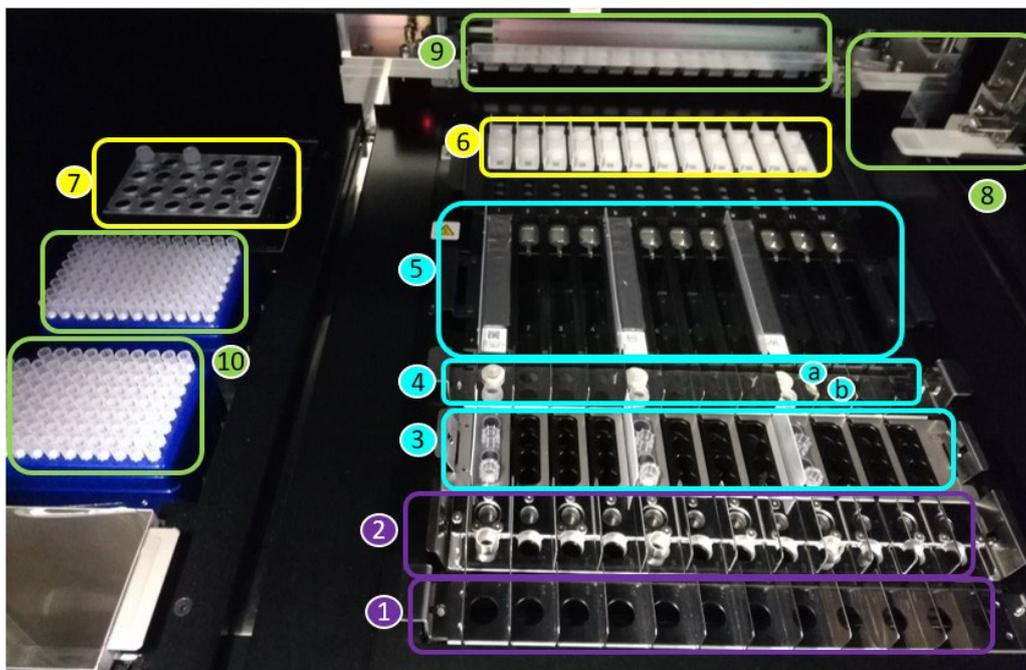

Figure 1: The «**ELITE InGenius**» loading area
An overview of the «**ELITE InGenius**» instrument is shown in Figure 1.
Figure 1 shows: Primary tube rack position (1), Extraction tube rack position (2), Tip rack position (3), Elution tube rack position (Dnase I tube + tube adapter (a) and Elution tube (b)) (4), Extraction cartridge rack position (5) and PCR cartridge rack position (6), PCR and Internal Control reagent block (inventory manager) position (7), sample and reagent dispensing (8, 9), the waste box (left-bottom) and tips positions (10).
- To confirm that sufficient reagents for the number of tests selected are placed in the inventory manager position 7 (cfr. page 10, Figure 1) as indicated on the screen, press the “Next” button.
- Place sufficient Tips racks in position 10 (cfr. page 10, Figure 1).
9. Place the PCR cassettes indicated in position 6 (cfr. page 10, Figure 1).
11. Place the Extraction cartridge cassette(s) indicated in position 5 (cfr. Page 10, Figure 1).
13. Place the DNase I, into the DNase I tube adapter, indicated in position 4 (cfr. Page 10, Figure 1).
15. Place the amount of elution tubes, indicated in position 4 (cfr. page 10, Figure 1).
17. Place the amount of Tip cassettes indicated in position 3 (cfr. page 10, Figure 1).
19. Place the amount of extraction tubes indicated in position 2 (cfr. page 10, Figure 1).